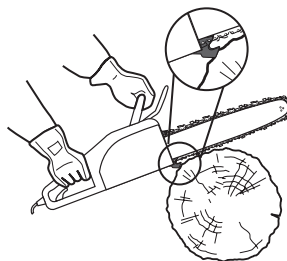

Fig.22
5. The saw chain (3) must be running at full speed before it makes contact with the wood. Use the spike bumper (6) to secure the product onto the wood before starting to cut and use it as a leverage point while cutting (Fig. 22).